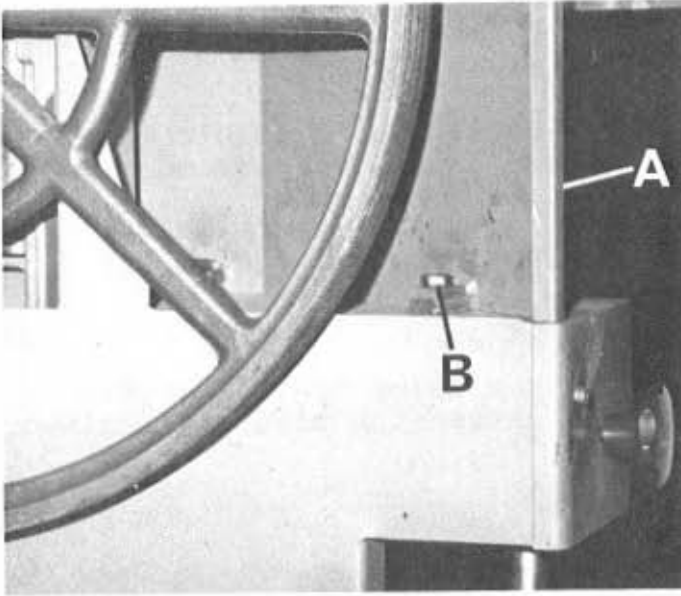

FIG 1
1. Secure top cover "A", FIG.1, to top of main frame by 4 - 12mm bolts "B".